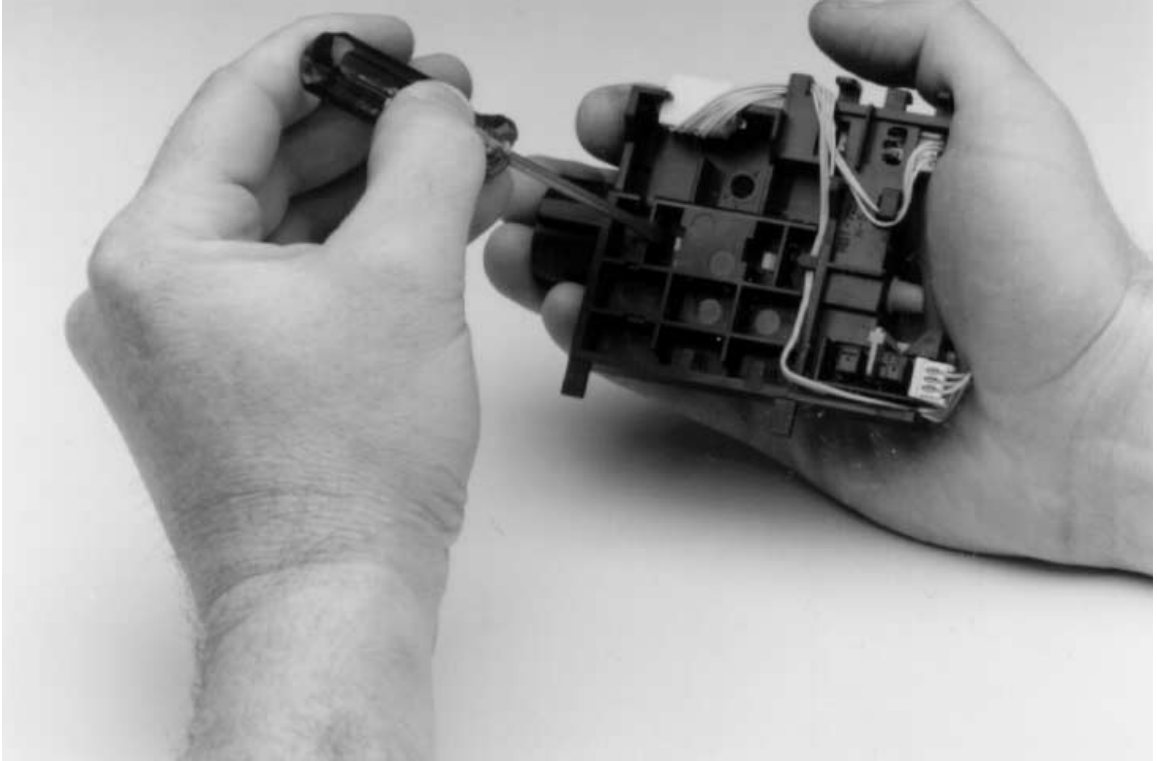

Figure 6-37 Feed Assembly removal (3 of 3)
- 6 Turn the Feed Assembly over and place it in one hand with the roller-side down. Pop one of the tabs on the other side and the feed roller should fall into your hand (Figure 6-37).